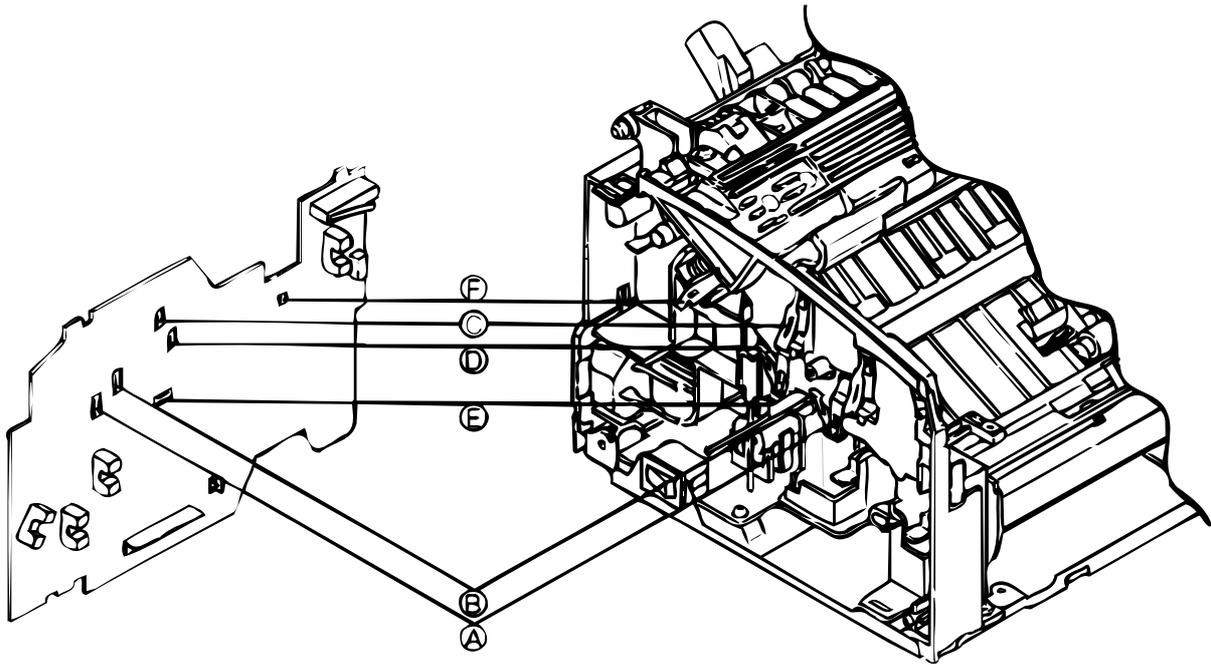

Figure 6-4
▼ No Is the terminal of the EP unit in correct contact with the contact plate? (See Figure 6-4 ㉔ and Figure 6-5 ㉔.)
▼ No Is the terminal of the EP unit in correct contact with the contact plate? (See Figure 6-4 (A) (B) (C) (D) (E) and Figure 6-5 (A) (B) (C) (D) (E).)